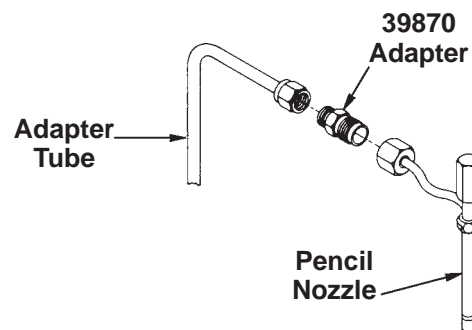

Figure 7
1. Firmly attach the pencil nozzle to the correct adapter for the application. Firmly fasten the adapter to the adapter tube. See Figure 7.